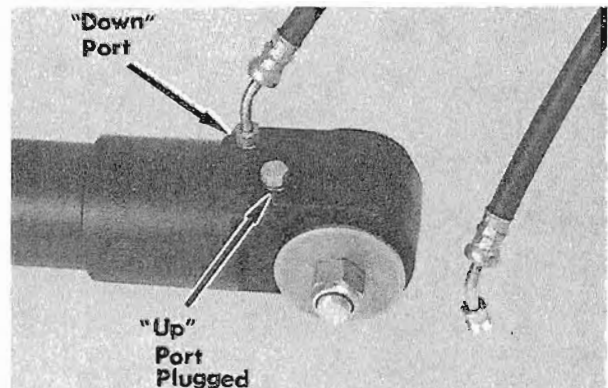

Figure 5. Cylinder 'Up' Port Plugged
- (1) Block unit in nearly full "Up" position.
- (2) Remove "Up" hose from one cylinder (Figure 5) and plug "Up" port with Part No. B-22-38609 (with "Down" hose connected as in "c", above).
- (3) Remove opposite cylinder from aft end of drive, then unblock and weight drive unit as in Step No. "c", preceding. The cylinder is OK if unit remains up. Replace if faulty.
- (4) Remove plug in "Up" port and reinstall hose to cylinder.
- (5) Repeat Steps "(1)" thru "(4)", immediately preceding, on second cylinder.